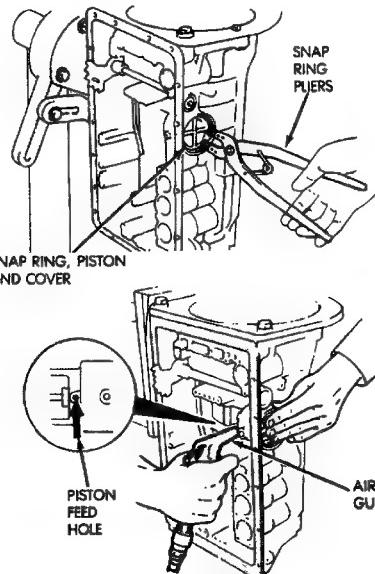

Fig. 29 Removing Second Coast Brake Cover And Piston
(37) Remove second coast brake piston snap ring with tool B.Vi. FM. 29. Then remove piston cover and piston assembly with compressed air applied through piston feed hole (Fig. 29).